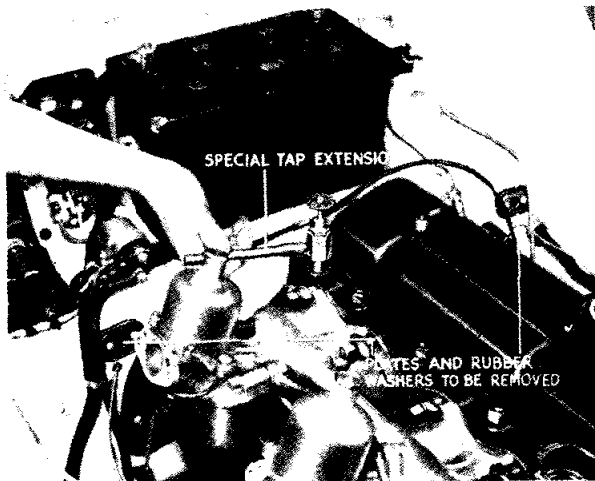
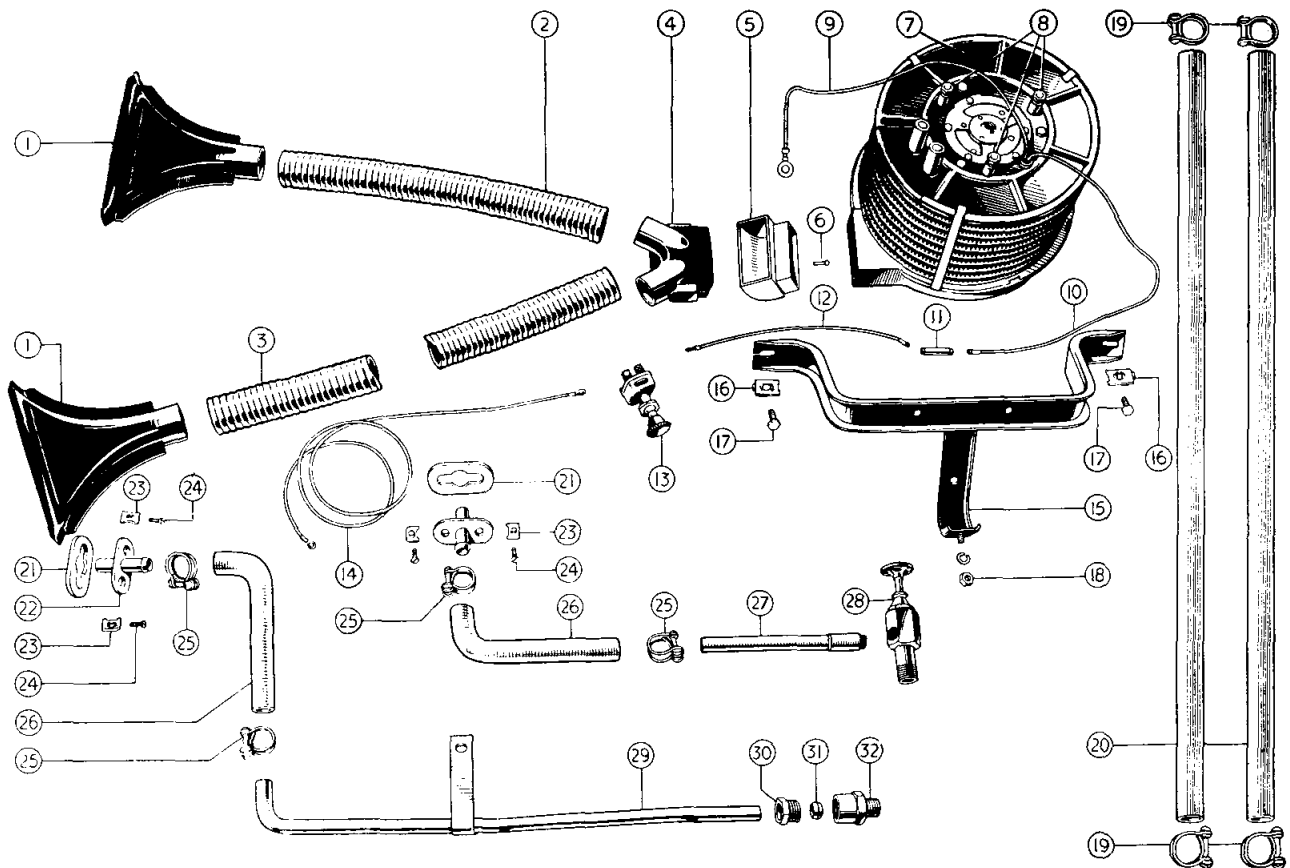

Fig. 8 Fitting Tap Extension
Fig. 16 Exploded view of Heater kit
3. Fit the taper threaded tap (28)(Fig. 16) into the tapped hole at the rear of the cylinder head and screw into the tap the special extension (27), so that this protrudes from the engine on the R.H. side of the unit (Fig. 8).